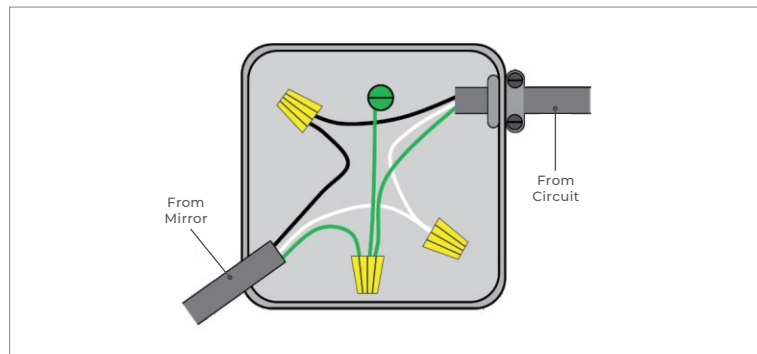

FIGURE 3
**D)** Make electrical connections (Line - black to black, Neutral - white to white, Ground - green/bare wire to green/bare wire) from junction box and circuit to the mirror using wire nuts or other connectors. (FIGURE 3)